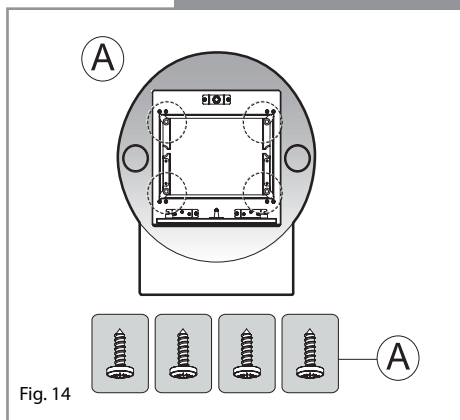

Fig. 14
2. Refit the 4 screws (A) in the base (fig.14)